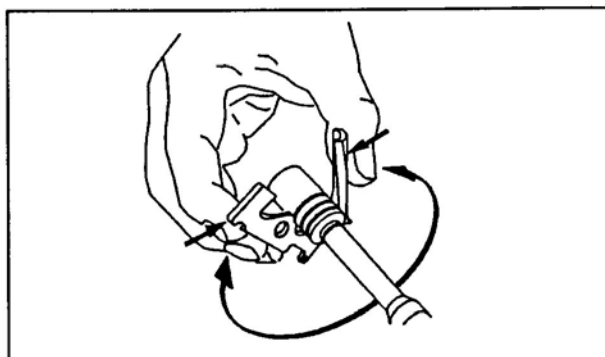

Figure 20. Cleaning of the grooves of the piston.
- (3) Clean the three grooves of the piston using a full, 360-degree circular motion (Figure 20).